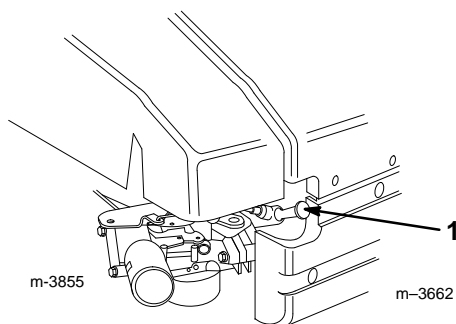

Figure 9
1. Remove the wire from the spark plug (Fig. 9).